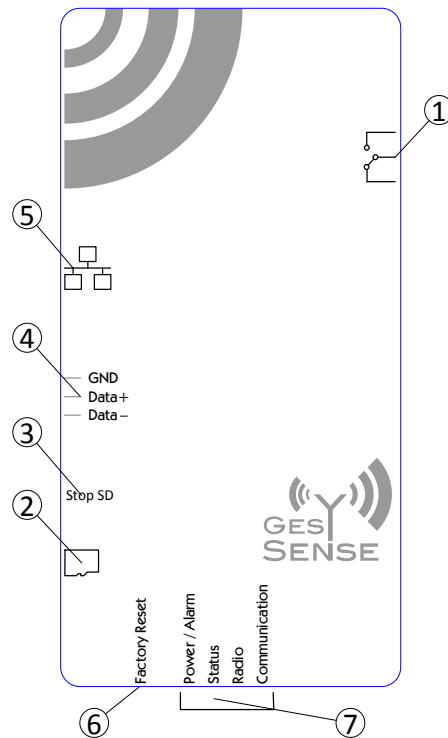

Figure 10-2: Connections, LEDs and buttons of Receiver \LAN
- ① Relay output
- ② Receptacle for microSD card
- ③ Stop writing push button for SD card
- ④ EIA-485 Modbus connector
- ⑤ Ethernet connector with LINK and TRAFFIC LEDs
- ⑥ Factory Reset push button
- ⑦ 4 status LEDs next to antenna
There are 4 LEDs (Figure 10-2, ⑦) next to the antenna signaling the following:
Two LEDs at the Ethernet connector (Figure 10-2, ⑤) indicate an existing connection (LINK) and the current TRAFFIC.
The Micro SD card receptacle takes one microSD card for storing received data. The memory card is inserted into the slot at the long side (Figure 10-2, ②). The card is FAT32 formatted.
To prevent that data is written on the SD card while removing it, push button ③ in Figure 10-2 (Stop SD) has to be pressed to stop any writing process.
The assembly bracket is either bolted to the wall or the ceiling. The mains cable is connected to the power supply. Furthermore the receiver is connected via Ethernet (Figure 10-2, ⑤) or an EIA-485 cable (Figure 10-2, ④, connector pin assignment on the device) to a data logger or other superior system. A cable strap is attached to the assembly bracket as strain relief for the mains and data cables.
If the Receiver \LAN shall communicate with a superior system by serial EIA-485 connection instead of Ethernet, the Modbus RTU connection must be made according to the information shown on the device (Figure 10-2, ④).
The Receiver \LAN offers one relay output (switch over). Its pin assignment is indicated on the housing (Figure 10-2, ①).